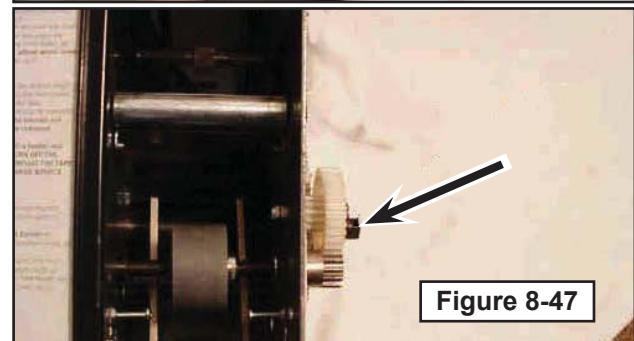

Figure 8-47
5. Remove bolt from the center of idler gear (Figure 8-47).